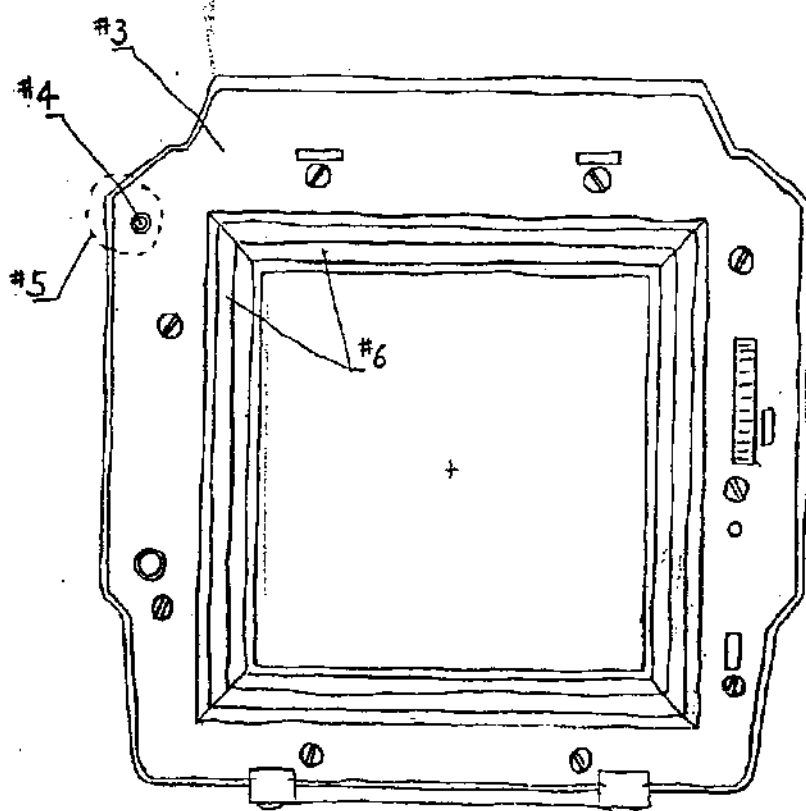

fig. 2
1. Coupling surfaces fail to set flush against each other because Front Plate #1 of film back (Fig. 1) and Rear Plate #3 of body (Fig. 2) are not flat and plane.